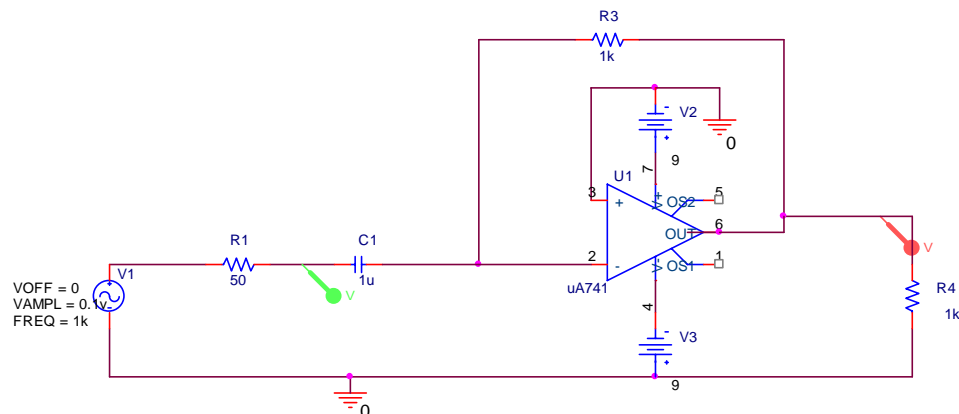

Figure C-5
- Remove the feedback capacitor, C2. Replace R1 with an input capacitor, C1=1μF. Replace the 100K feedback resistor with a 1K resistor, R3. Your circuit should now look like figure C-5.